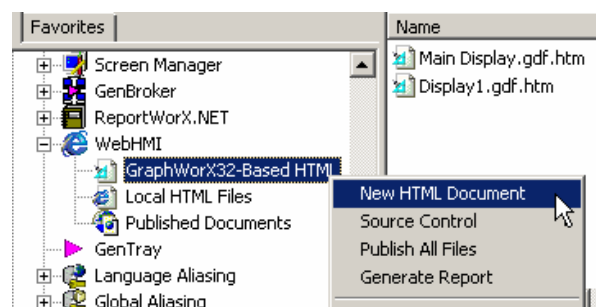

Figure 4.34. Launching the Web Publishing Wizard
1. Right-click on the **Applications/WebHMI/GraphWorX-Based HTML** tree and select **New HTML Document**, as shown in Figure 4.34.